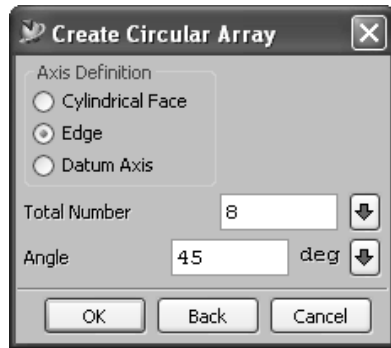

Figure 8-24 The **Create Circular Array** dialog box
2. To create a circular array, select the **Circular** radio button and choose the **OK** button. The **Create Circular Array** dialog box will be displayed, as shown in Figure 8-24, and you will be prompted to define an object as an array axis. You can select a cylindrical face, datum axis, or an edge of the component to define the array axis. Enter the number of instances in the **Total Number** edit box and the angle of rotation in the **Angle** edit box in the **Create Circular Array** dialog box.